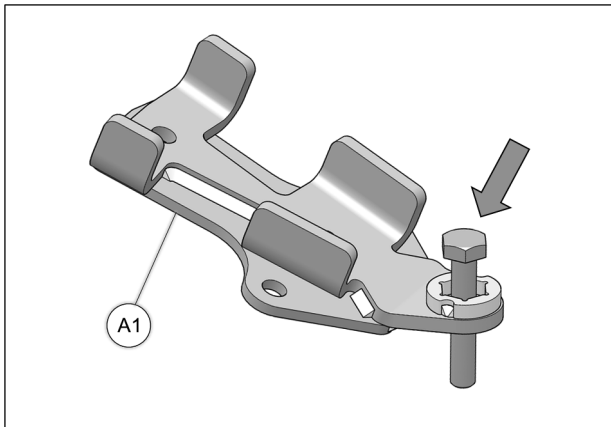

Fig. 12
4. Insert bolt in front anchor brackets (A1) as shown in Fig. 12